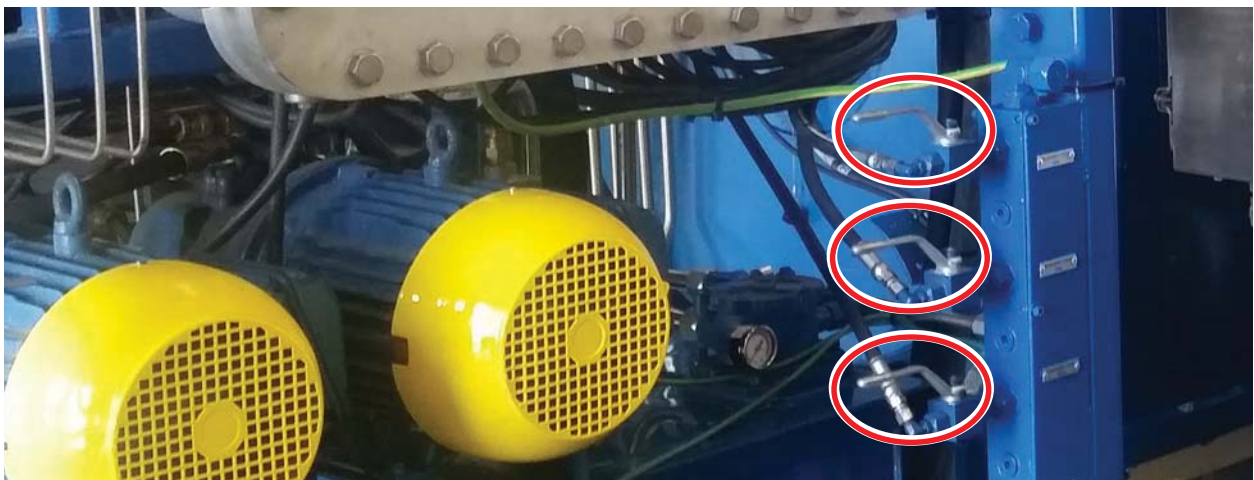

Figure 6: Valve Handles
- a. Bleed system pressure down by opening the three valves on the HPU. Turn the valve handle so it is in perpendicular with the line to relieve the pressure, see Figure 6, "Valve Handles," on page 3.